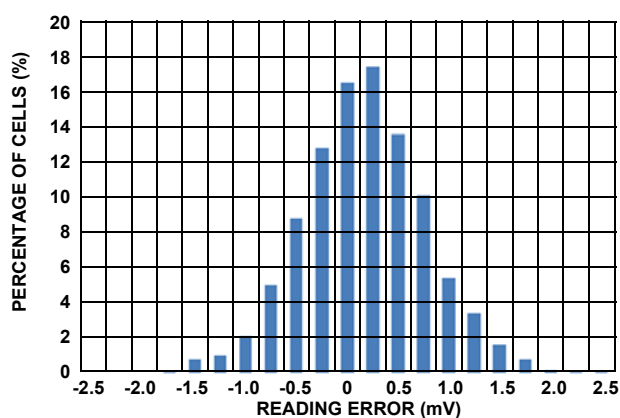

FIGURE 8. CELL READING ERROR FROM EVALUATION BOARDS AT CELL VOLTAGE FROM 2.6V TO 4.0V, AND -20°C TO +60°C HISTOGRAM
- Stresses may be induced in the ISL78600 during soldering or other high temperature events that affect measurement accuracy. Initial accuracy does not include effects due to this. See Figure 8 on page 19 for cell reading accuracy obtained after soldering to Renesas evaluation boards. When soldering the ISL78600 to a customized circuit board with a layout or construction significantly differing from the Renesas evaluation board, design verification tests should be applied to determine drift due to soldering and over lifetime.